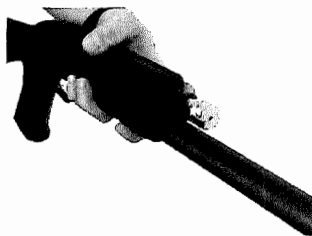

Fig. 15
10. Pull out the bolt assembly by sliding it forward. (Fig. 15)